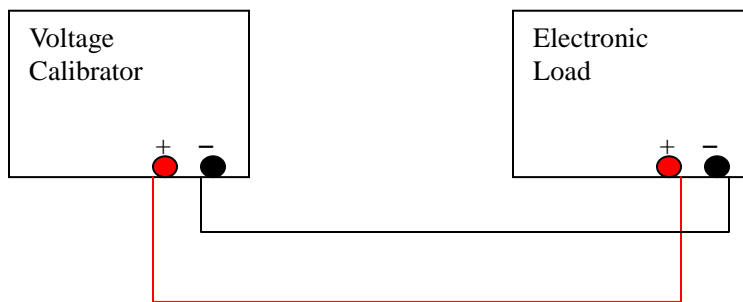

Figure 1.
① Open the upper cover of the Electronic Load, make sure all the instruments have been warmed up for at least 30 minutes. Set the eload to OFF state. Connect the eload to Voltage Calibrator as Figure 1.